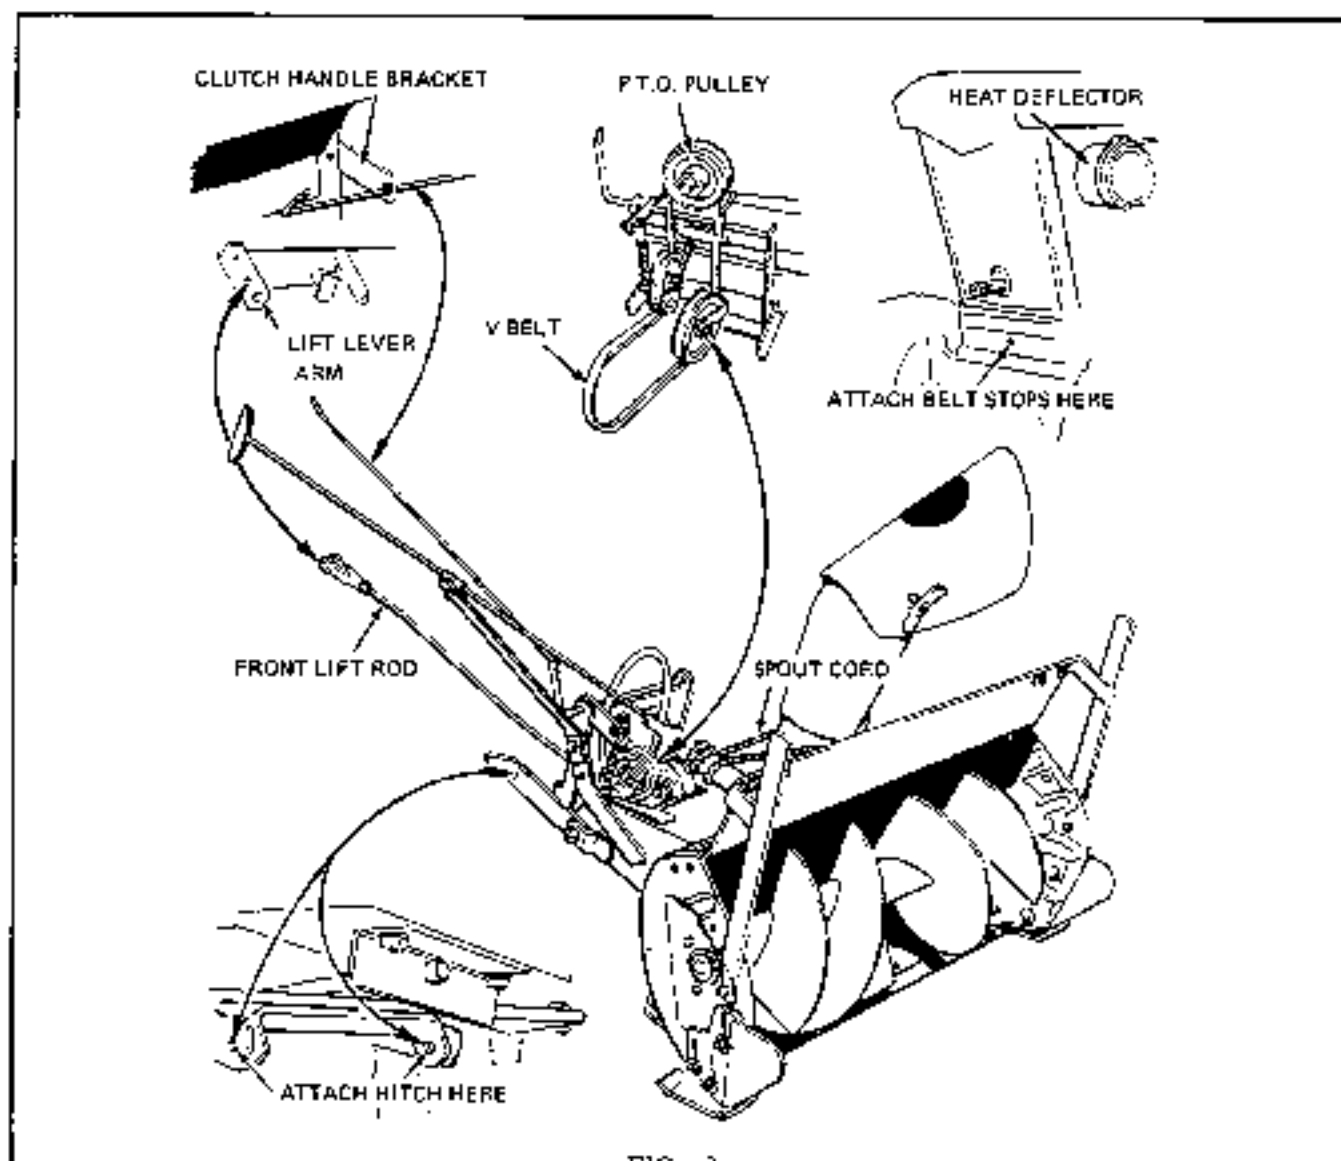

FIG. 2
5. Remove 5/16-18-1/4 long hex cap screw, lock and plain washer from tractor directly below front mounted P.T.O. shaft. Insert through two belt fingers and reassemble. **DO NOT TIGHTEN.** (See Fig. 2).
6. Attach front mounted P.T.O. pulley to shaft. Secure 3/8-24NF setscrew down on key. (See Fig. 2).
7. Attach hitch assembly to tractor with two pins and two spring clips. (See Fig. 2).
8. Place belt around front mounted P.T.O. pulley. (See Fig. 2). The belt should be a minimum of 54-1/4" in length.
13. Position discharge spout directly forward. Position control tube so that cord clamp faces side of spout. Provide two (2) coils of cord on both sides of clamp. Position free ends of cord around spout and clamp securely into position after removing all slack from cord. (See Fig. 2).
14. Remove forward, top capscrew from R. H. side panel. Insert clutch handle bracket between side panel and side member of fuel tank and steering post support assembly. Secure with same capscrew and lockwasher. (Fig. 2)
15. Insert clutch control rod through bracket and attach to clutch pivot and secure in place with spring clip. (See Fig. 2). The addition of plain washers, nylon washers and locknut to the clutch linkage assembly will assure a positive disengagement when the clutch handle is pulled in the disengaged position. The locknut should be set to a torque setting of 4 ft. lbs. It should require
17. The lift lever quadrant on the side of the tractor contains a series of holes and a pin. Place pin in the foremost hole of quadrant and secure in place with hair pin cotter. Release lift lever and place in a forward position. Attach yoke end of front lift rod to lift lever arm using top hole in R. H. side of tractor, with yoke pin and hair pin cotter. Insert lower end of lift rod into lift arm bracket of push bar and secure with hair pin cotter. The lower end of front lift rod is to point away from tractor. (See Fig. 2).
18. Position heat deflector over muffler and adjacent to engine. Flap of deflector to be positioned against air cleaner. Secure with clamp provided. (See Fig. 2).